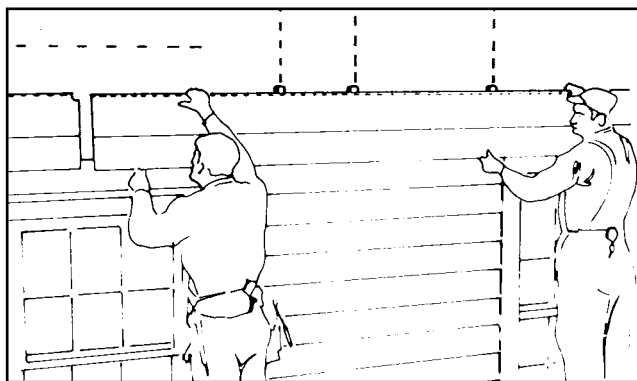

Fig 6.2
2. CONTINUING COURSE Succeeding panels should be installed end to end at the same level until each course (height of one panel of siding-corner to corner) is completed. It is generally preferred to work on one wall at a time installing from the back of the house to the front and in the same direction on each course. Check alignment with a carpenter's level every third or fourth course to be sure installation remains horizontal. It is especially important that siding courses line up evenly with doors and windows (Fig. 6.2)